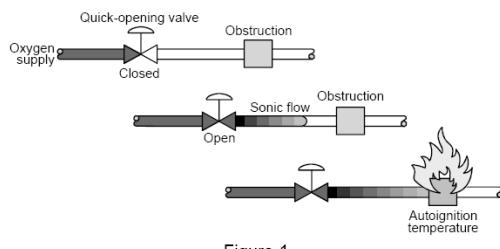

Figure 1
When oxygen flows from high to low pressure through an orifice, such as when a valve is opened quickly, it often reaches sonic velocity and compresses the oxygen downstream against an obstruction, such as the seat of the next closed valve or regulator (Fig. 1). The gas temperature can reach the autoignition point of plastics, organic contaminants, or small metal particles.
**Use needle valves only (Fig.1).**